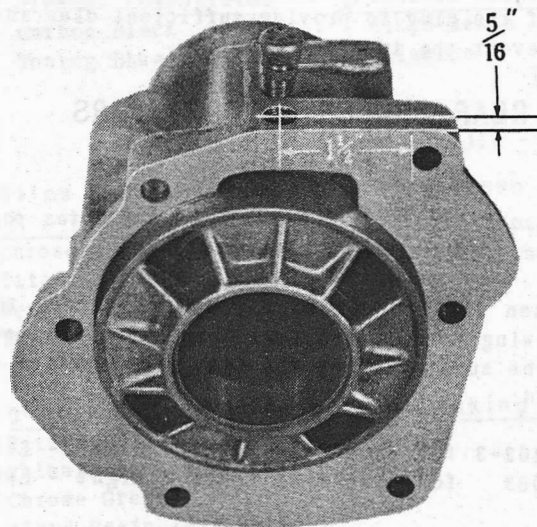

Fig. 4
2. Locate a point on top of the extension housing 1 1/2" left of the upper right bolt hole in the housing and 5/16" rearward from the machined face of the housing. (See Fig. 4)